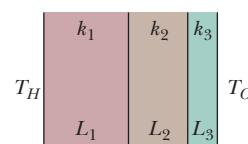

Figure 18-46 Problem 60.
- 60 GO** Figure 18-46 shows the cross section of a wall made of three layers. The layer thicknesses are  $L_1$ ,  $L_2$ , and  $L_3 = 0.350L_1$ . The thermal conductivities are  $k_1$ ,  $k_2 = 0.900k_1$ , and  $k_3 = 0.800k_1$ . The temperatures at the left side and right side of the wall are  $T_H = 30.0^\circ\text{C}$  and  $T_C = -15.0^\circ\text{C}$ , respectively. Thermal conduction is steady. (a) What is the temperature difference  $\Delta T_2$  across layer 2 (between the left and right sides of the layer)? If  $k_2$  were, instead, equal to  $1.1k_1$ , (b) would the rate at which energy is conducted through the wall be greater than, less than, or the same as previously, and (c) what would be the value of  $\Delta T_2$ ?